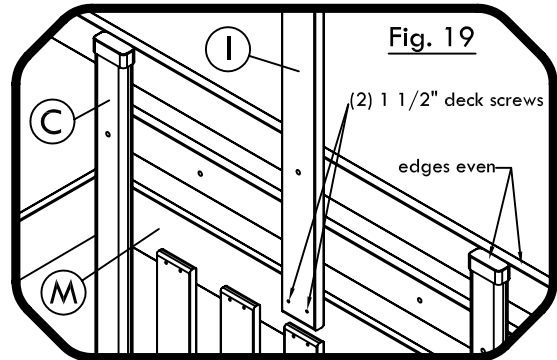

Fig. 19
- (1) Roof Tarp
- Step 1:** Attach Tarp Assembly to the top of Fort, even with the top of Uprights 'C', with 2" tapping screws & fender washers. (see Fig. 19)
- Step 2:** Attach Tarp Uprights 'I' to Fort Rails 'M' with (2) 1 1/2" deck screws each as shown. (see Fig. 19)